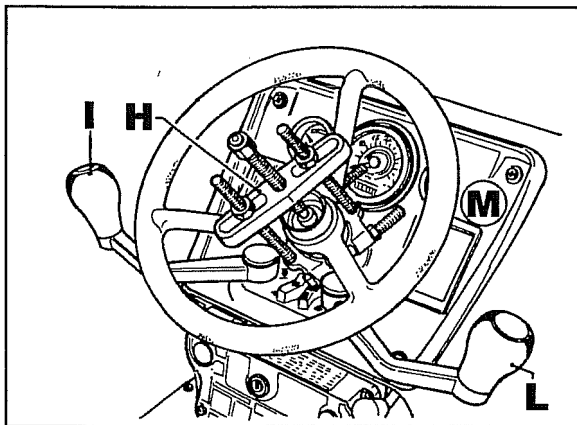

Fig. 6
- b. Use an extractor (**H**) as shown in Fig. 6 to remove the steering wheel.
- c. Remove the gear range **I** and gear change **L** levers and remove dashboard **M** (Fig.6).